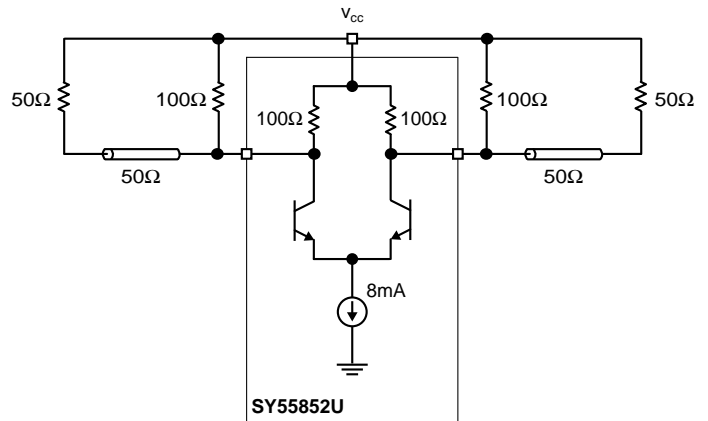

Figure 3b. Individually Terminated (50Ω Load CML Output)
**Note 1.** Tested using environment of Figure 3b, 50Ω load CML output.